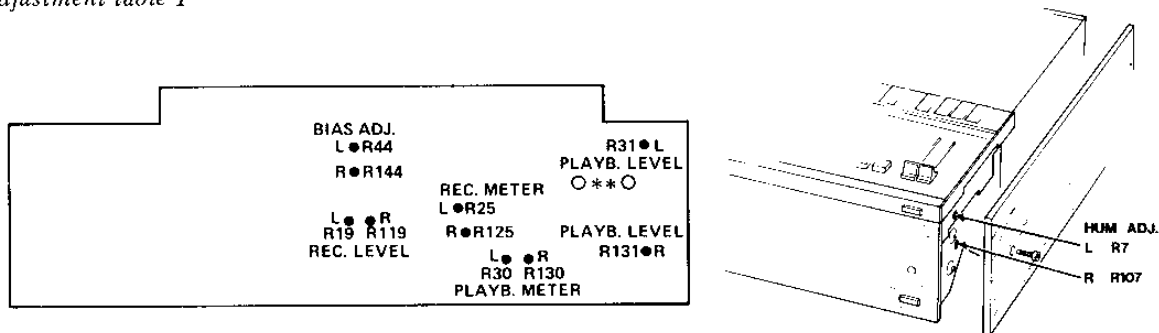

Fig. 8.1 Location of adjustment points
** On later machines a hole will be drilled in the main board A1 to permit R11 to be adjusted (see Figure 8.1).